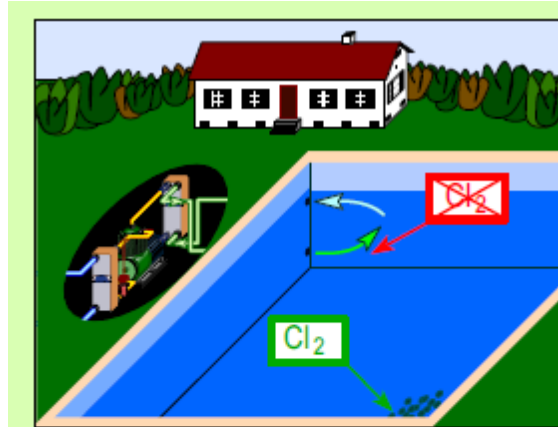

Figure 164: Notes concerning plate heat exchangers
- Never add the chlorination in front of the water inlet of the plate heat exchanger. The chlorination should be added as far away from the plate heat exchanger as possible (see **Figure 164**).
- The water inlet should be close to the surface and the outlet near to the bottom. This improves the mixing of the heated water and mainly prevents the entrance of chlorine particles or concentrated solution into the plate heat exchanger (see **Figure 164**).